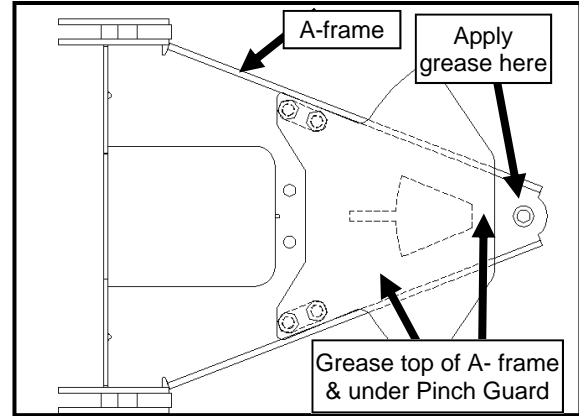

Fig. 3.1—A-Frame and Hardware
**3.1** Per fig 3.1, locate the A-frame, one 1/2-20 x 3.5" hex head bolt, one 1/2-20 conical locking hex nut, and one 1/2" washer. Apply all-season grease to the top and bottom surface of the A-frame around and in the 1/2" bolt hole. Grease should extend about an inch away from the center of the hole.